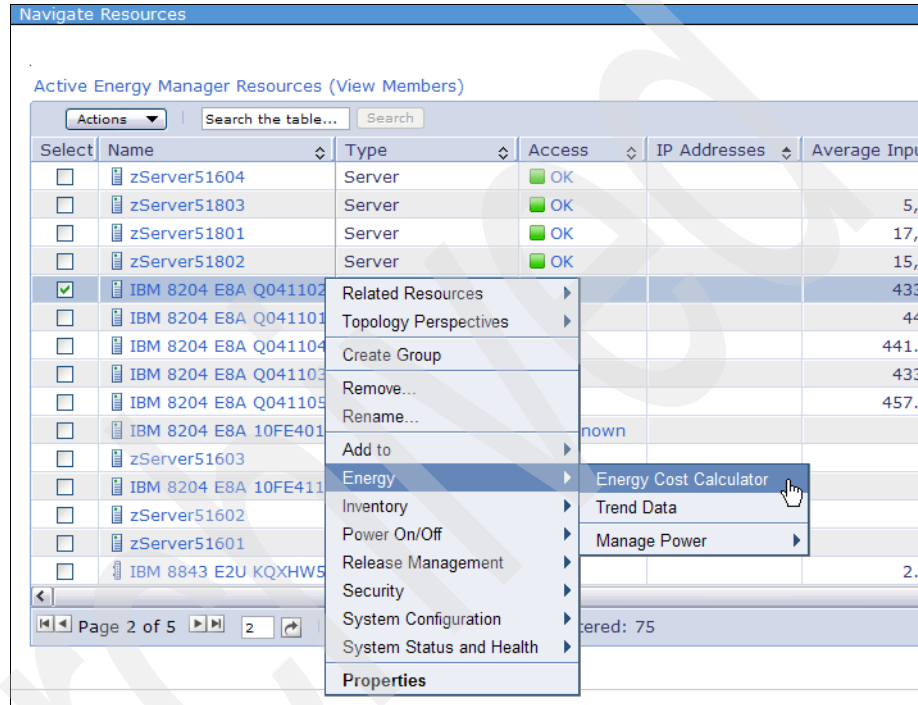

Figure 6-55 Using the Energy Cost Calculator - 1
2. Right-click the Active Energy Manager resource or group for which you want to calculate the energy cost, and select **Energy** → **Energy Cost Calculator** (Figure 6-55).